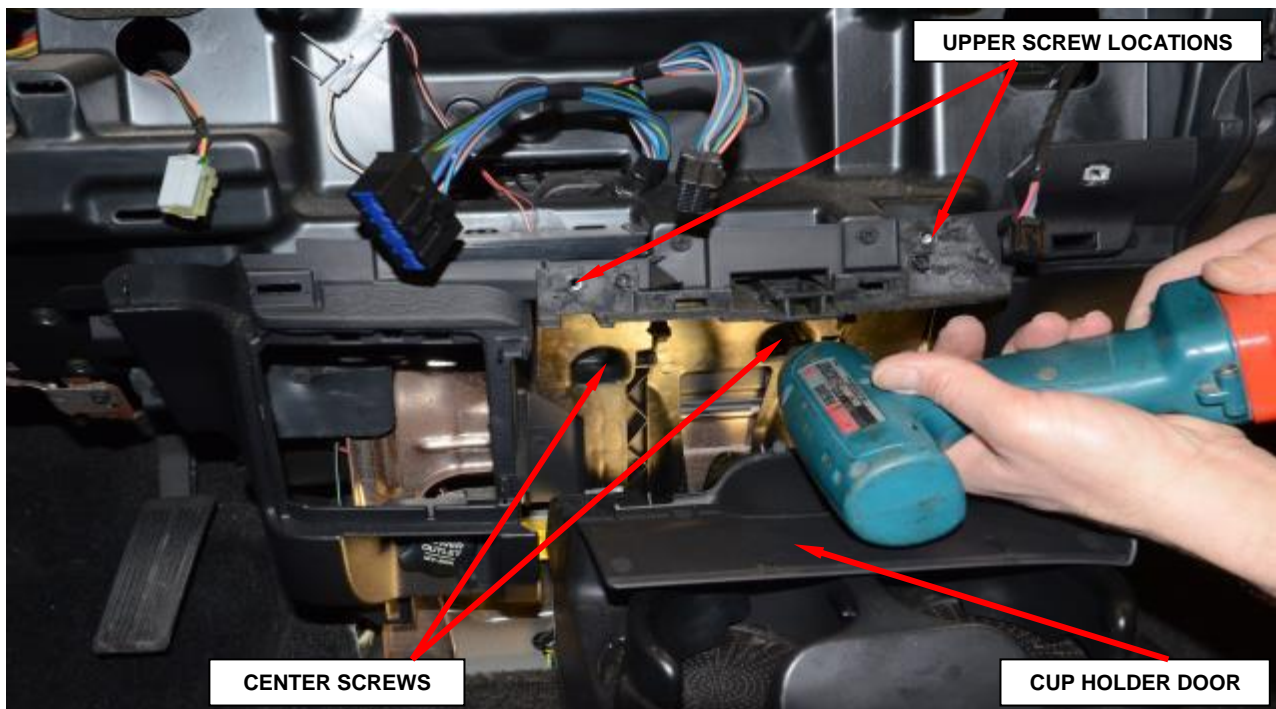

Figure 10 – Center Cup Holder Screws
- d. Open the cup holder and cup holder door then remove and save the two center screws that secure the cup holder to the instrument panel (Figure 10).